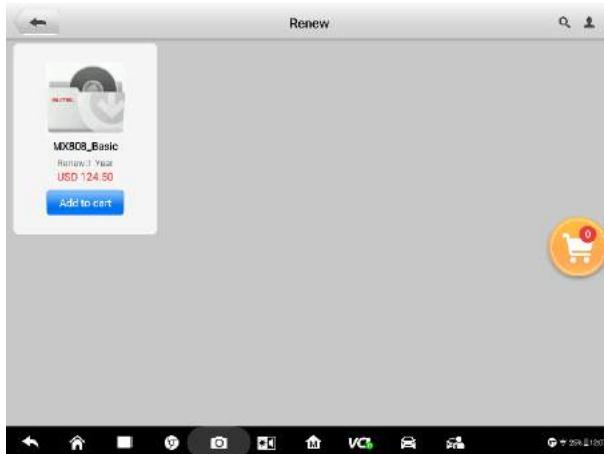

Figure 20-2 Sample Software Buy Screen
5. **Blue box** - provides conditional access to new software services or valid-added services for specific devices. (For example, tap the **Renew**, you will see a list of options, as Figure 20-2 shows.)
2. Select the software type you need from the list (*Figure 20-2*). Add them to your shop cart.